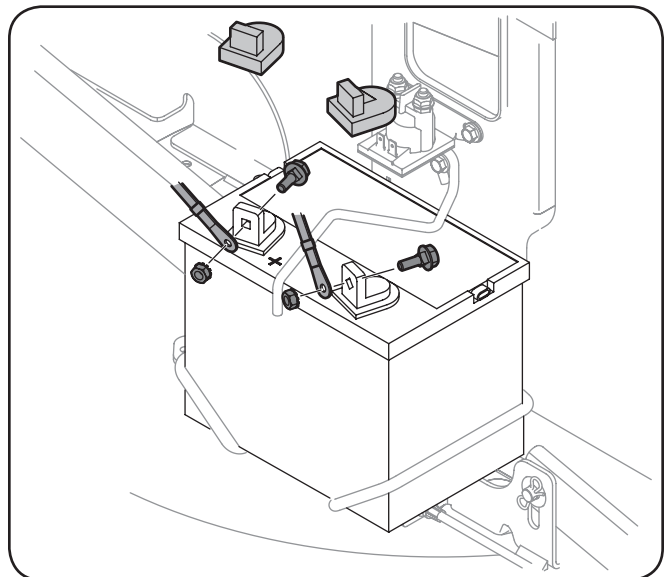

Figure 3-12
2. Remove the plastic cover, if present, from the positive battery terminal and attach the red cable to the positive battery terminal (+) with one of the bolts and hex nuts, previously removed, using a $\frac{7}{16}$ inch wrench and socket. See Figure 3-12.
3. Remove the plastic cover, if present, from the negative battery terminal and attach the black cable to the negative battery terminal (-) with the remaining bolt and hex nut. See Figure 3-12.